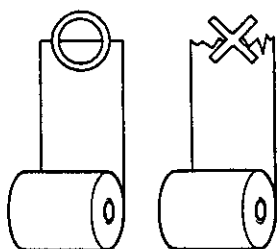

Fig. 2
3. Before you install a new paper roll, the paper end should be cut with a knife or scissors for easy insertion (Fig. 2).